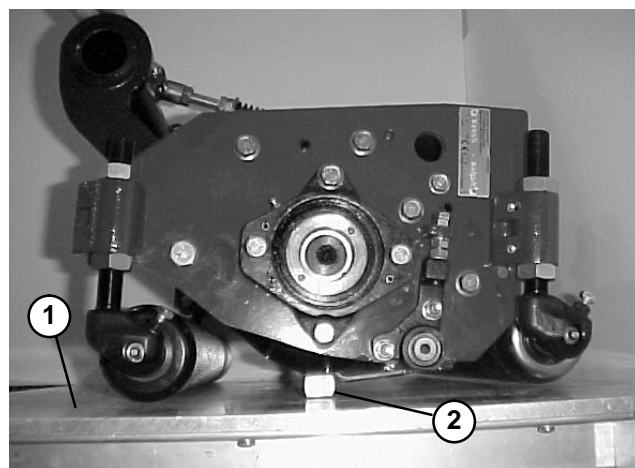

Figure 17
2. Position a straight, parallel sided bar under the reel blades and against the front edge of the bedknife (Fig. 17). For 1" (25 mm) height-of-cut or below, a 3/4" (19 mm) bar is recommended. For heights-of-cut above 1" (25 mm), a 1-1/4" (32 mm) bar is recommended. **Make sure bar covers the full length of the reel blades.**